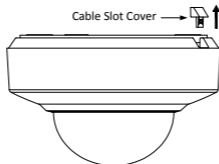

Figure 2-31 For Type II PTZ Camera
3. Drill a cable hole in the ceiling according to the circle A on the template if you want to route the cables through the ceiling. Pull out the cable slot cover if you want to route the cables on the surface of the ceiling, as shown in Figure 2-31.